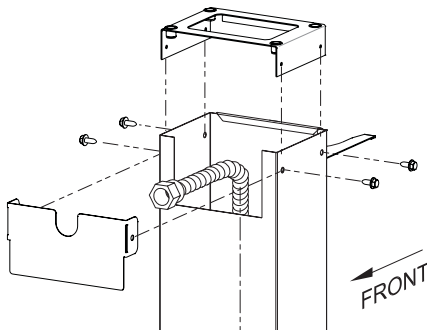

Figure 5
- For R3 Series Grill Heads: Slide the Post Cover Plate onto the front of the post. Slide the Upper Bracket onto the post. Secure the Post Cover Plate and Upper Bracket to the top of the square post using four #10 - 1/2 Hex Head screws. See Figure 5.
**For Grill Heads other than R3 Series:** Slide the Upper Bracket into the post. Secure the Upper bracket to the top of the square post using four #10 - 1/2 screws. See Figure 5.